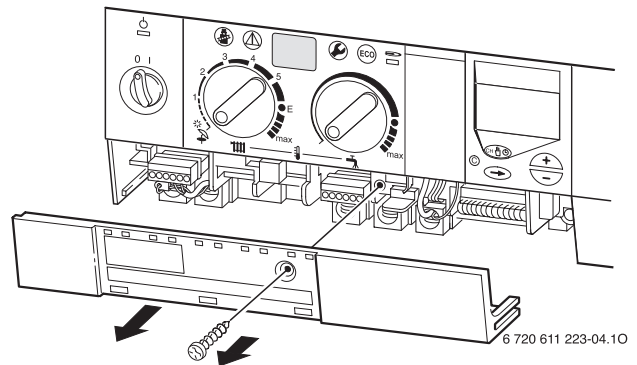

Fig. 25
- ▶ Remove screw and slide terminal cover forwards to remove. Refer to fig. 25.